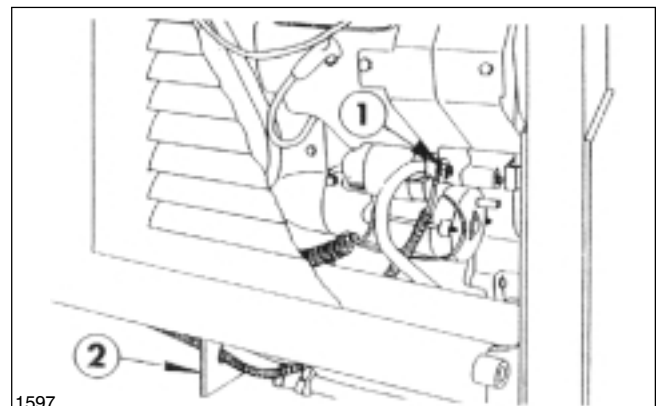

FIG. 2
9. From the hole in the Frame Cross Member route the Wiring Harness through the hole in the Engine Cross Member and up to Starter Solenoid. Attach 5/16" Ring Terminal to (+) positive post on the Starter Solenoid. See FIG. 2.